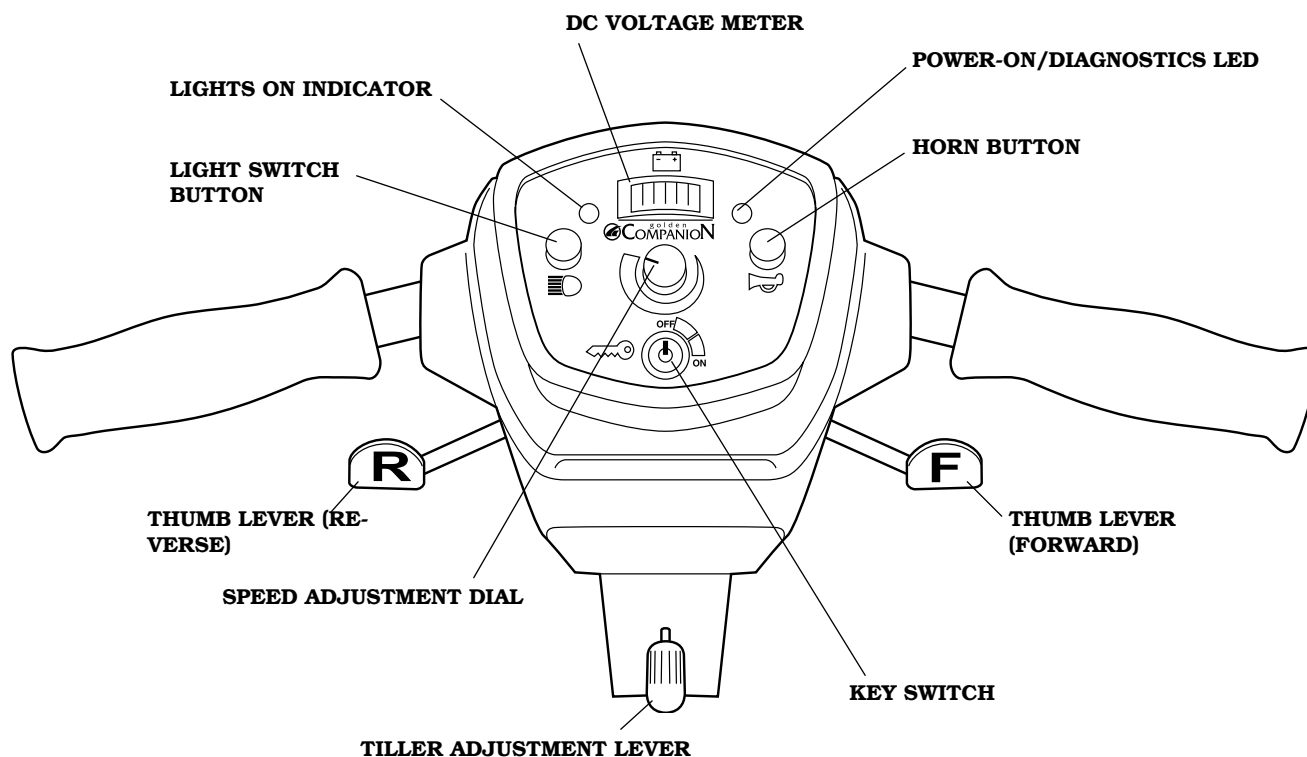
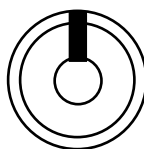

FIGURE 4. CONTROL PANEL
FIGURE 9
This meter (see figure 4) shows the amount of voltage in your Companion's batteries.
- Use your other hand to push down and hold the tiller adjustment lever (see figure 4).
1. Stand alongside your Companion and insert the key into the key switch. See figure 4 on page 10 and figure 9 on this page.